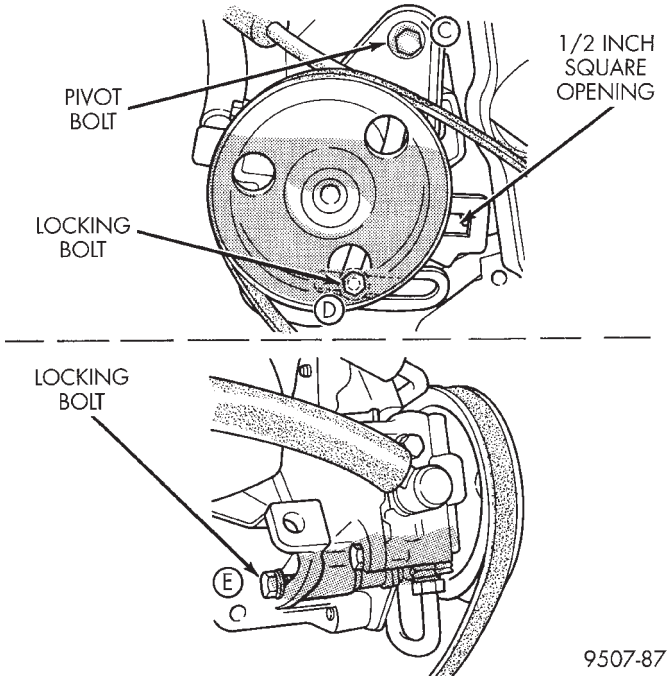

Fig. 47 Power Steering Belt Adjustment
(1) From the top of the vehicle loosen pivot bolt C.
(2) From under the vehicle loosen locking bolts D and E (Fig. 47).
(3) Install the belt. Adjust belt tension with 1/2 in. breaker bar installed in adjusting bracket. See Belt Tension Chart.
(4) Tighten locking bolt D to 54 N·m (40 ft. lbs.) (Fig. 47).